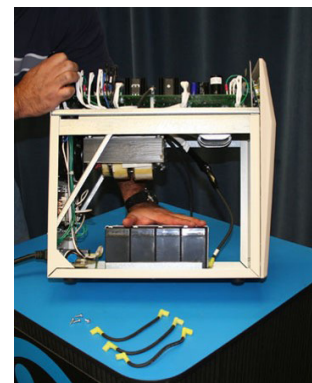

Fig 11.
11. Place your hand over the battery bracket and carefully tilt the UPS back upright. Note: It may be helpful to have a second person assist you. Fig 11.